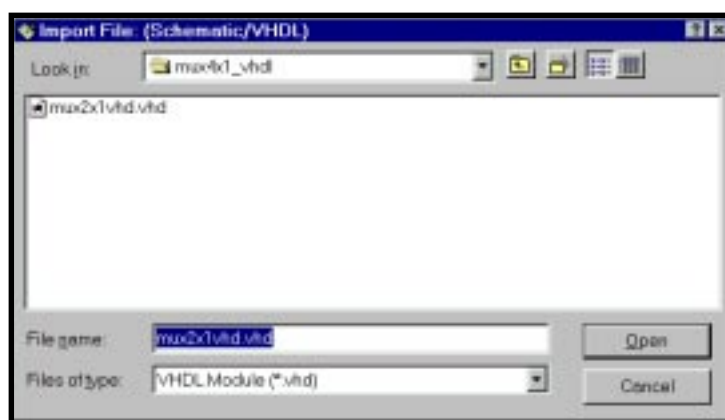

Figure 3-17. Import File Dialog Box
1. Choose **Source** ⇒ **Import** from the menu bar. The Import File dialog box appears (Figure 3-17). The project type Schematic/VHDL is shown in the title bar of the dialog box letting you double check your project type before importing the source files.